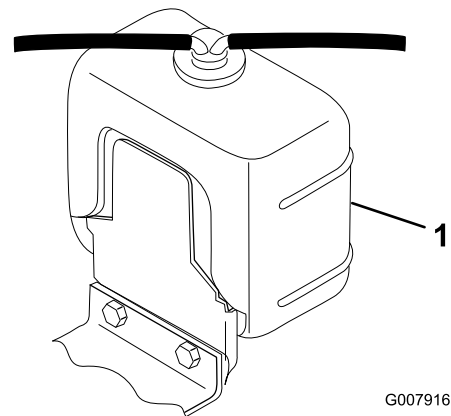

Figure 32
1. Carefully remove radiator cap and expansion tank cap (Figure 32).
2. Check level of coolant in radiator and in expansion tank (Figure 32).